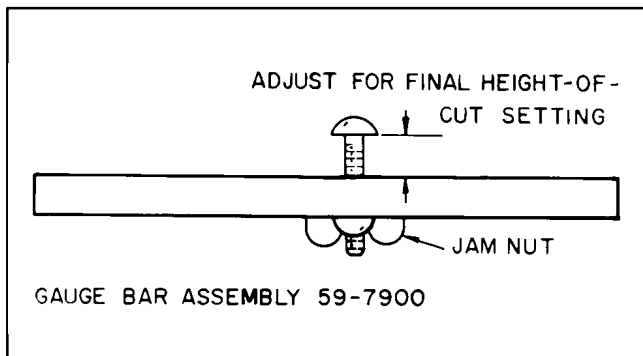
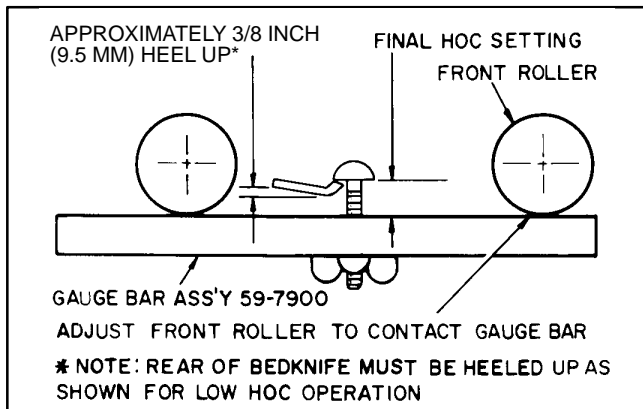

Figure 9
Figure 10
C. Loosen gauge bar jam nut and adjust screw to set dimension between underside of screw head and gauge bar for desired height-of-cut (Fig. 9). Tighten jam nut to secure the adjustment. Hook screw head over cutting edge of the bedknife and position bar against bottom of front roller (Fig. 10).
D. Loosen front roller nuts, and adjust both ends of the front roller until it contacts the gauge bar at both ends. With the gauge bar held firmly against the bottom of the rollers, adjust front roller so the screw head slips just over the lip of the bedknife (Fig. 10). Tighten front roller nuts.